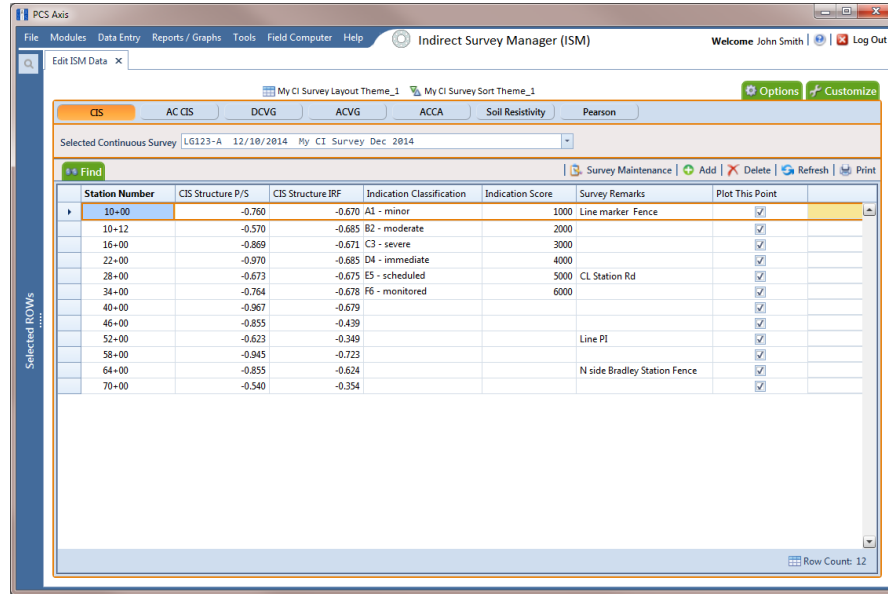

Figure 7-85. Edit ISM Data
- 3 Click **Data Entry > Edit ISM Data** to open the ISM data entry grid. Then click a button labeled with the type of continuous survey data you want to work with, such as the **CIS** button  (Figure 7-85).